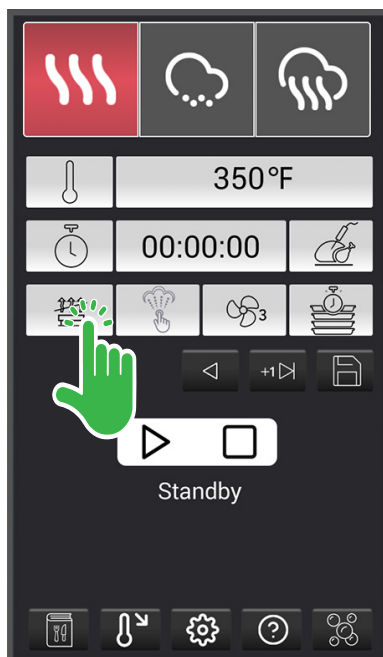

Fig. 28
- Touch the Vent icon (Fig. 28) to toggle between the open and closed position.